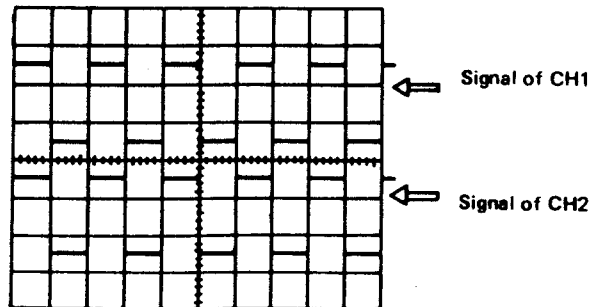

Figure 4-5
Now, apply the calibration signal also to the vertical input terminal of CH2 with the probe as is the case for CH1. Set the AC-GND-DC switch in the AC state. Adjust vertical POSITION knobs (9) and (20) so that two channels of signals are displayed as shown in Figure 4-5.